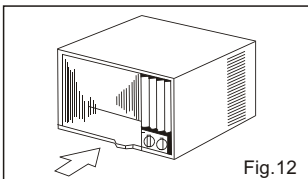

Fig.12
- 6) Carefully slide the unit back into the cabinet.(Fig. 12)